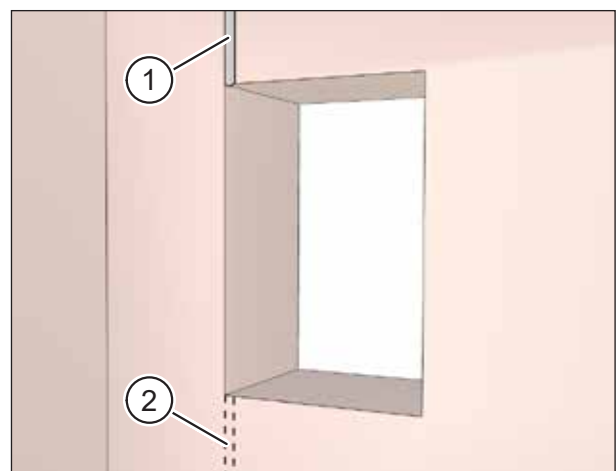

Fig. 16: Chasing out channels for connecting cables
- ▶ Chase out a channel for the mains and control cables (item 1 in Fig. 16).
The wall channel in Fig. 16 is shown by way of example. An alternative wall channel is shown as dashed lines (item 2 in Fig. 16). For the subsequent electrical installation work, we recommend running the mains and control cables from the left at the wall breakthrough.